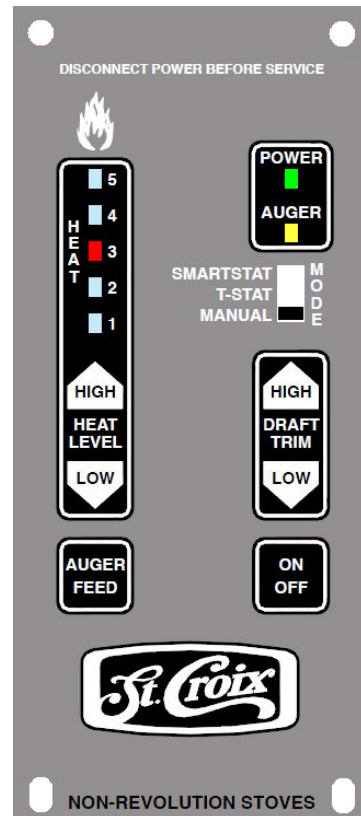

Figure 17
A closer look at the Control Board to the right in figure 17 will explain how the board works. There are essentially 4 buttons on the control board. Two of these buttons, the **Heat Level** and **Trim** Buttons, have a High/Low side to advance these settings up or down. There is a **Slide Switch** that controls the Thermostat Mode and an **LED Light** bar that indicates which of the 5 Heat Settings the Ashby-MF is running on.
4. Close the door and push the On/Off button on the control board. (*See figure 17 on page 29*)